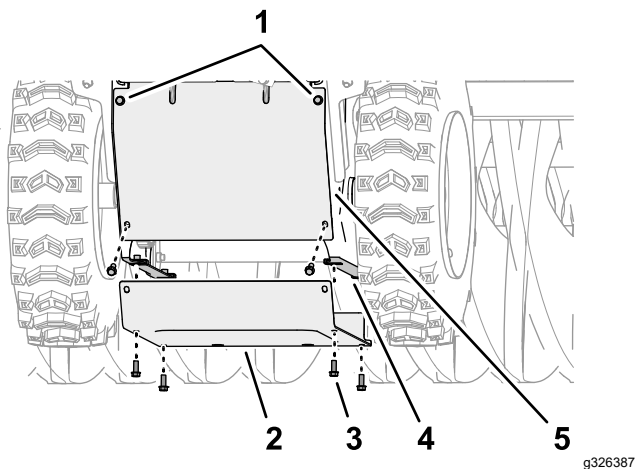

Figure 51
4. At the bottom of the machine, align the holes in the bottom cover with the holes in the flanges of the left and right side plates (Figure 51).
- Assemble the bottom cover to the machine (Figure 51) with the 6 flange-head capscrew (1/4 x 5/8 inch).
- tighten the 2 top flange-head capscrew (1/4 x 5/8 inch) that secure the rear cover to the machine (Figure 51).